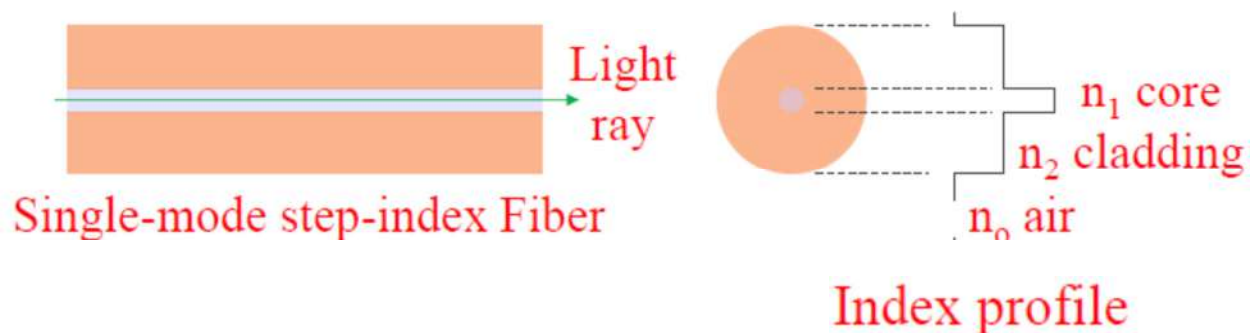

Fig. 08 [06].
- The shape of the refractive index profile also so [Fig. 08].